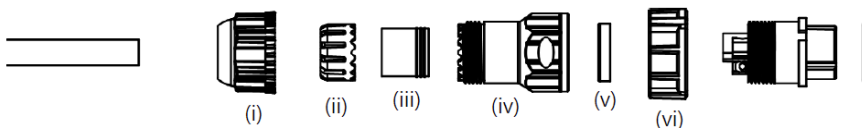

Figure 45: Insert Ethernet cord
1. Insert the Ethernet cord through each component – sealing nut (i), clip (ii), sealing (iii), sealing body (iv), gasket (v), and lock nut (vi) (Figure 45).